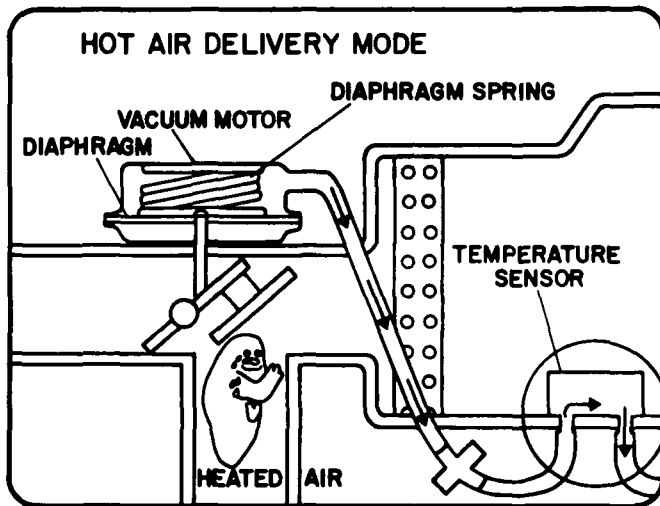

Figure 5-21
2. Explain the purpose of the vacuum delay valve shown in Fig. 5-21.